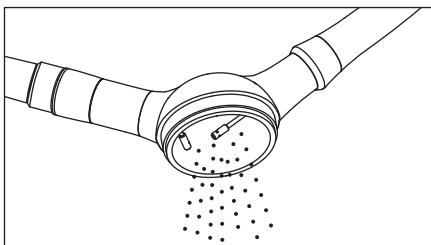

Fig. 5
- 1) Open the powder case cap, and remove the remaining cleaning powder. (Fig. 5)